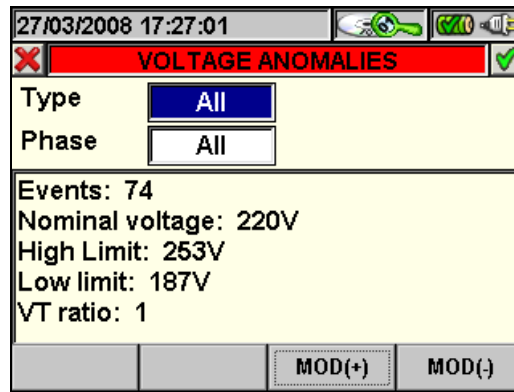

Fig. 103: Voltage Anomalies
- The **F2** key (or the **PARAM** item on the display) accesses the page showing the settings for voltage anomalies (Fig. 103).